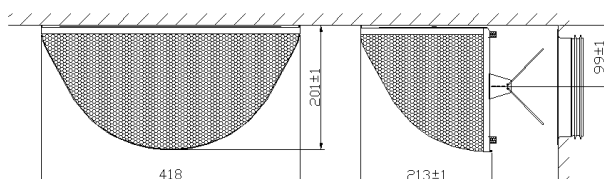
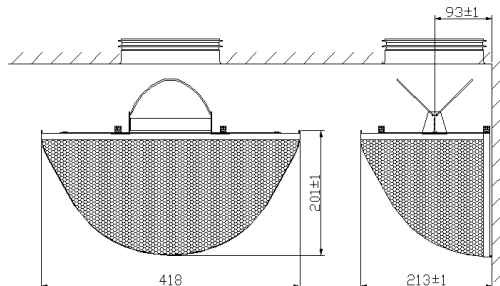

Figure 6: ASV-B with duct connection from behind (through the wall)
Figure 7: ASV-T with duct connection from above (through the ceiling)
- ASV-B is mounted on the wall with duct connection from behind through the wall (figure 6) and ASV-T with duct connection from above (figure 7 and image 3). The diffusers are supplied with spring connection for easy mounting in Lindab's detail VRFU-160 (not included).